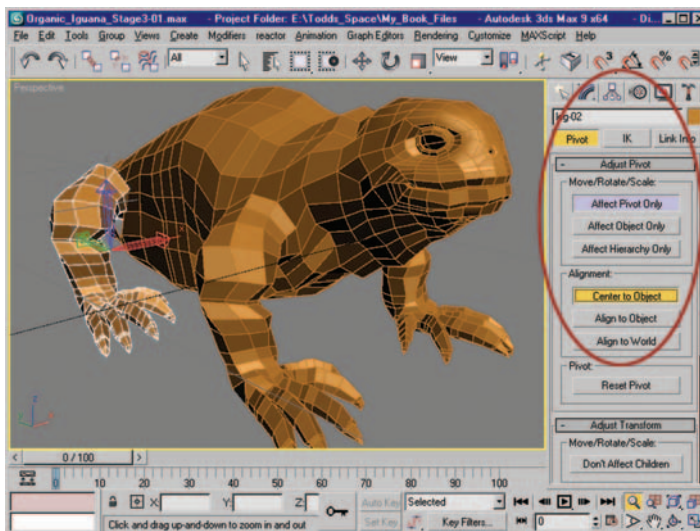

Figure 9.78 New leg mesh with pivot aligned to the center of the leg.
41. With the new leg mesh selected, go to the Hierarchy tab at the top of your modifier stack, and select Pivot. Click the Affect Pivot Only button, then click Center to Object (Figure 9.78).